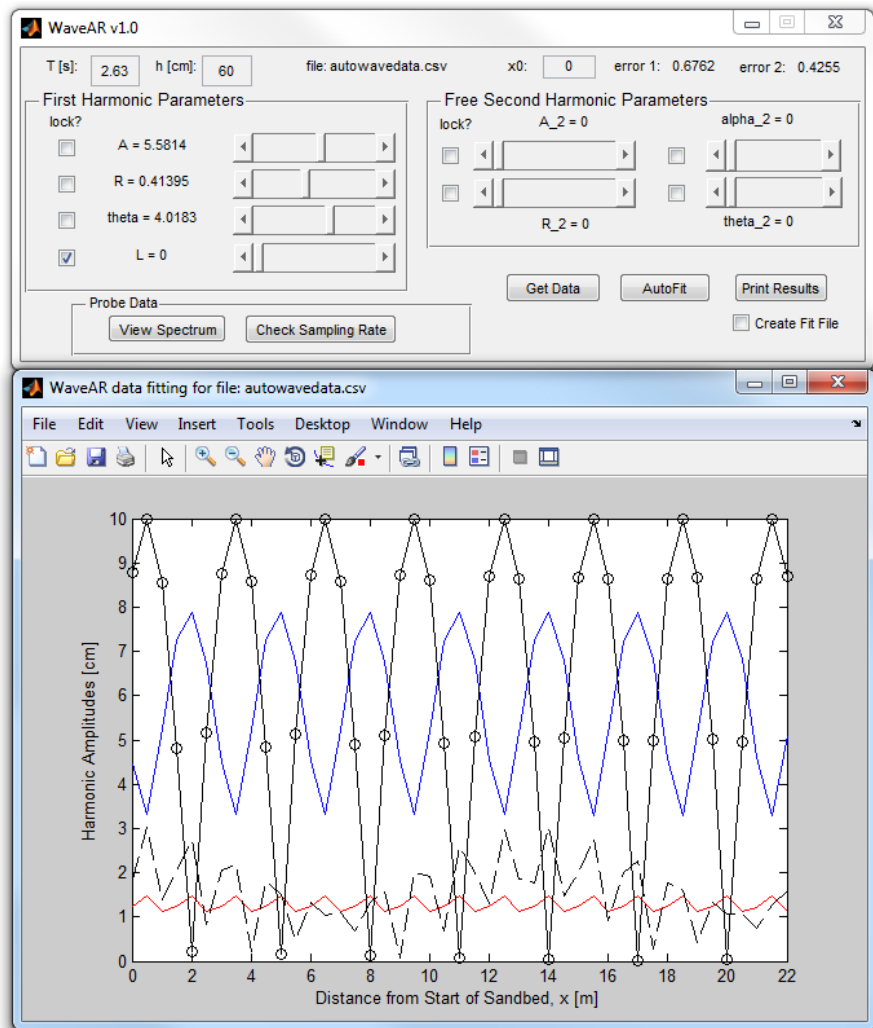

Figure 6. Data fitting by adjusting parameter sliders in the main *WaveAR* GUI. Blue and red lines denote the 1st and 2nd harmonic amplitude fits, respectively.
- 4) By adjusting the parameter sliders, the fitted and measured wave harmonic amplitudes are matched across the entire domain (e.g., the wave tank). First and second harmonic fits denoted by blue and red lines, resp. (Figure 6).